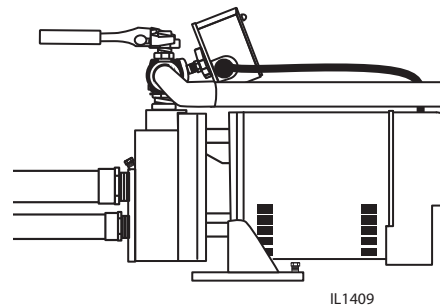

Figure 33 - Tighten flow control screw
3. Tighten flow control screw completely by turning clockwise, then loosen two turns. Now start the pump. (Fig. 33)